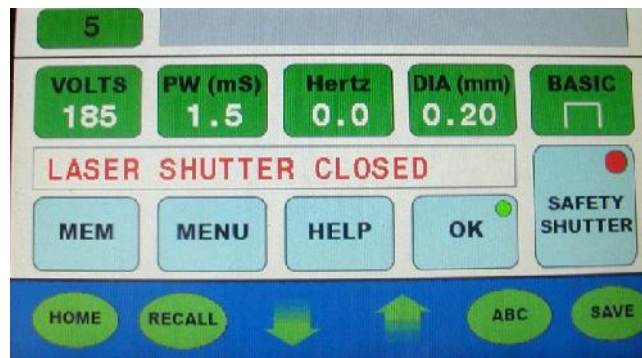

Figure 1
Password Protection “ON” restricts the usable buttons on the touch screen display. The following buttons on the Main Screen are still active. **(Figure 1)**
- Press “MENU” on the Password Screen to enter the password and return to the Main Screen (**Figure1**)